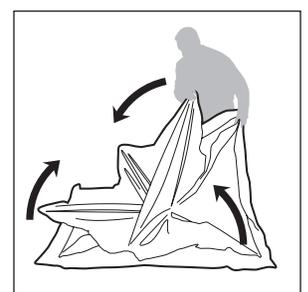

FIGURE 8
3. The shelter will be back in its flat stage just as it was when it was unfolded out of the backpack bag. Gather all corners of the shelter and fold together. **SEE FIGURE 8.** Do not force the shelter when folding. Watch for entanglement of poles.